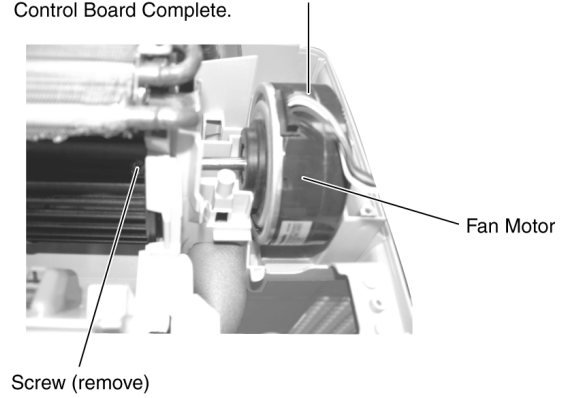

Fig. 7
5. Remove the screw at the Cross Flow Fan. (Fig. 7)
REMINDER - To reinstall the Fan Motor, put it back in place, adjust the position of the Fan Motor's leadwire appropriately as shown in the Fig. 7 before installing the Cross Flow Fan.